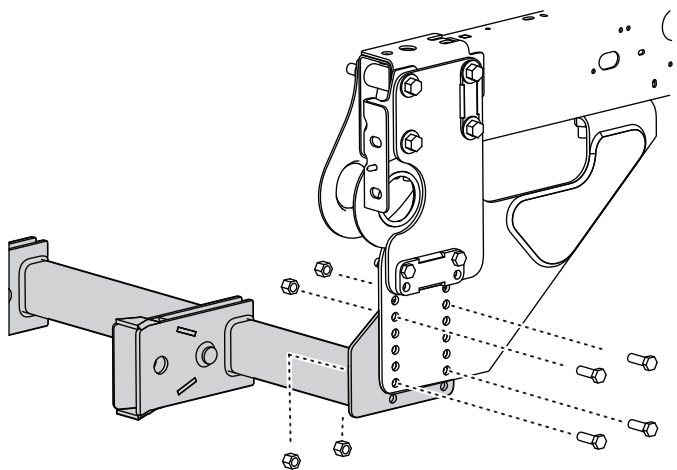

Figure 7
- Loosely attach the pushbeam to the sideplates using 8 bolts (1/2 inch) and locknuts (Figure 7).